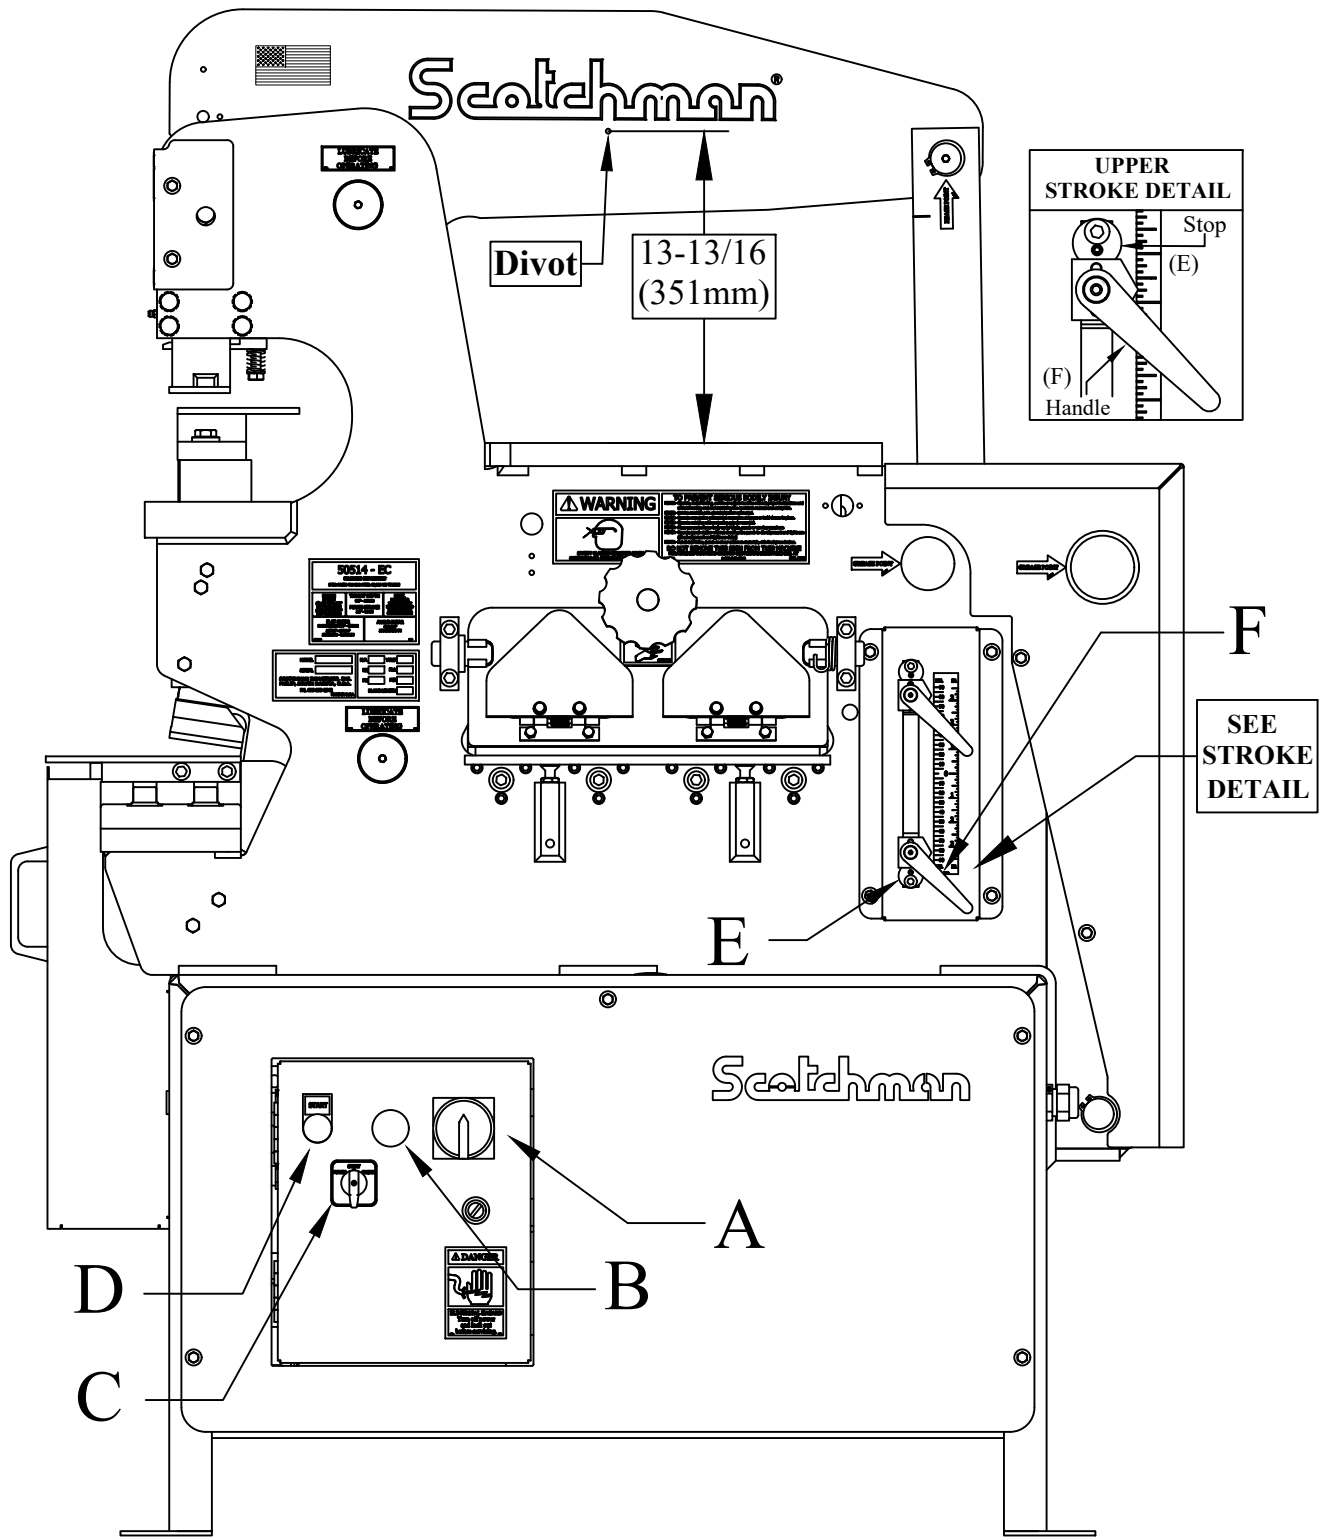

FIGURE 6
**SEE FIGURE 6 ON THE FOLLOWING PAGE.**
- 2. Place the Disconnect Switch (A) in the OFF position.**
- 3. Place the stroke control handles (F) in their outermost positions..**
- 4. Place the Selector Switch (C) in the START position.**
**Place the Disconnect Switch (A) in the ON position.**
**Push the green START button (D) to power the machine.**
- 5. Place the Selector Switch (C) in the SHEAR position and allow the punch barrel to reach its lowest point. Turn OFF the machine by pushing the Emergency Stop Button (B).**